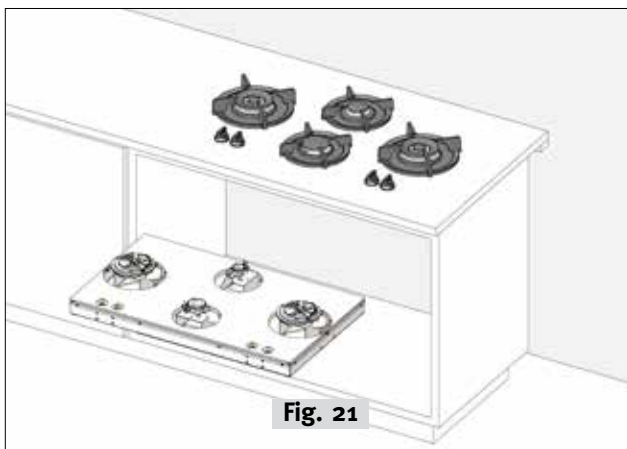

Fig. 21
- 4b. In case of service, the PITT® cooking module should **ALWAYS** be able to be disassembled without disassembling the cabinets and/or kitchen benchtop (**fig. 21**).